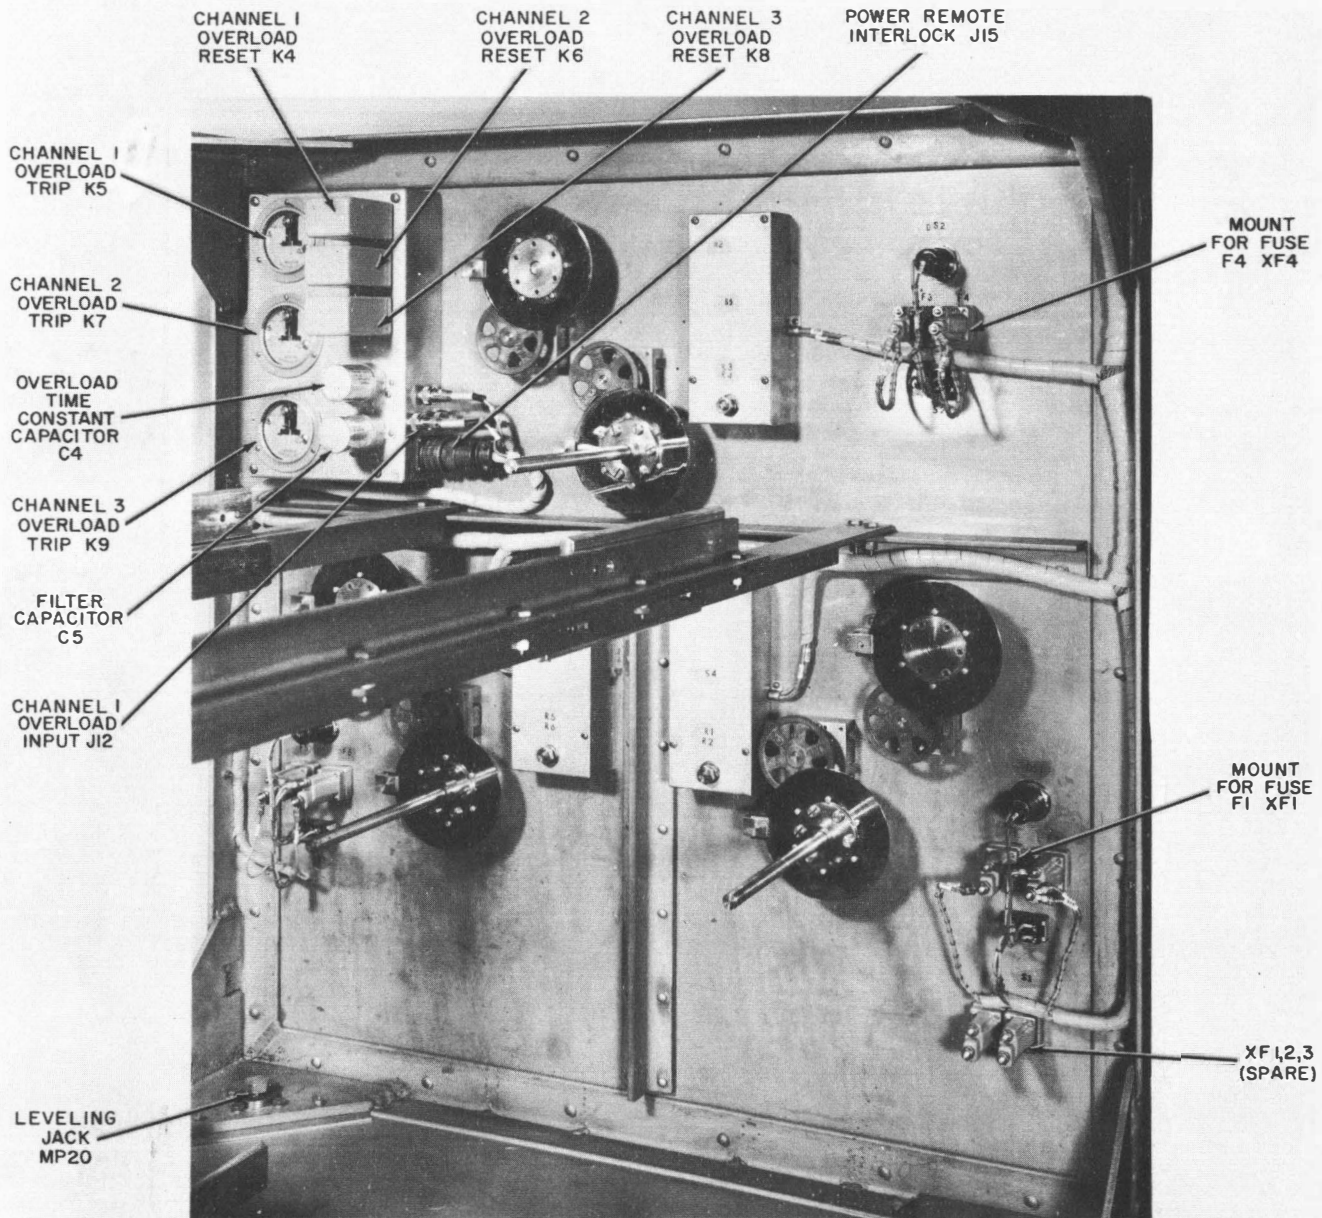

Figure 6-8. Electrical Equipment Cabinet CY-3409/FRA-49(V),
The removal procedures for parts used in the antenna coupler group are as follows (see figures 6-8 through 6-16):
a. RELAYS, METERS, COMPONENTS, MOTORS, AND SWITCHES. - Relays, meters, components, motors, and switches are removed by removing the mounting hardware and unsoldering the leads (see figure 6-8).
The replacement and reassembly procedures for parts used in the antenna coupler group are as follows (see figures 6-8 through 6-16):